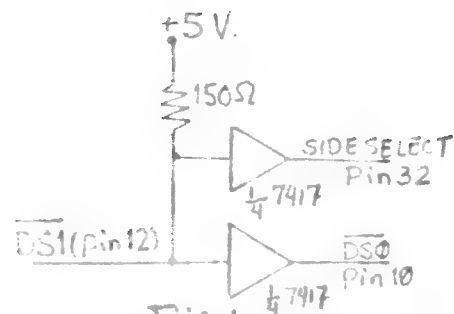

Fig.1
- 3) On Page 13 of this issue of LIST John Bell has a circuit for running double-sided disk drives with the Zebra Disk Controller. As can be seen he uses 74LS08 which has a totem pole output stage. If you are in the habit of connecting and disconnecting your cables every ten minutes like me, you can at least burn the chip by installing the cable upside down. The remedy is to use open collector sourced logic with proper pull up resistors. An example is the circuit shown in Fig.1(from a British source)which makes the second side of a double sided disk drive appear as though it was an independent/second drive.